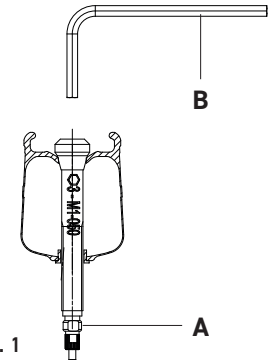

Fig. 1
- Tighten the valve locknut (A - Fig. 1) keeping it stationary with your hand or a pair of pliers and turning the valve with a 3 mm Allen wrench (B - Fig. 1).